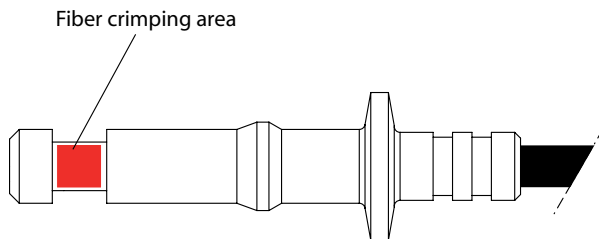

Fig. 4 Fiber crimping area
- Push the stripped fibre as far as possible into the connector sleeve (see figure 4) so that it protrudes approx. 1 mm from the tip of the connector